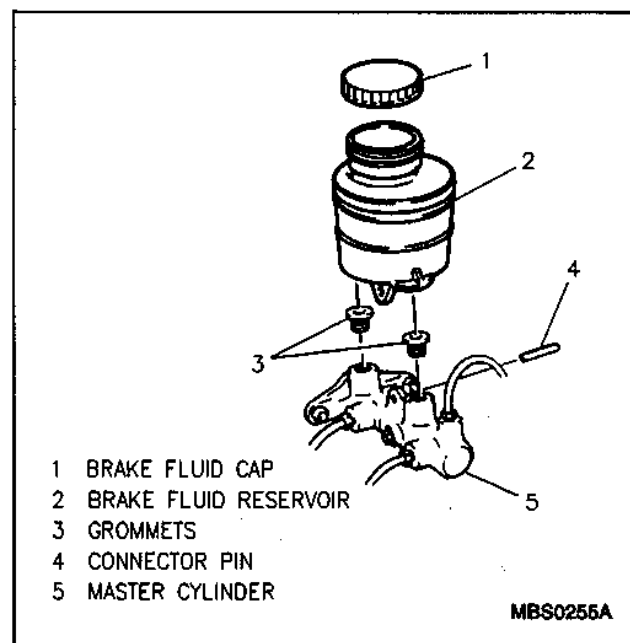

Figure 4—Master Cylinder Fluid Reservoir Connector Grommets
5. Master cylinder fluid reservoir roll pin using a hammer and a punch (Figure 4).